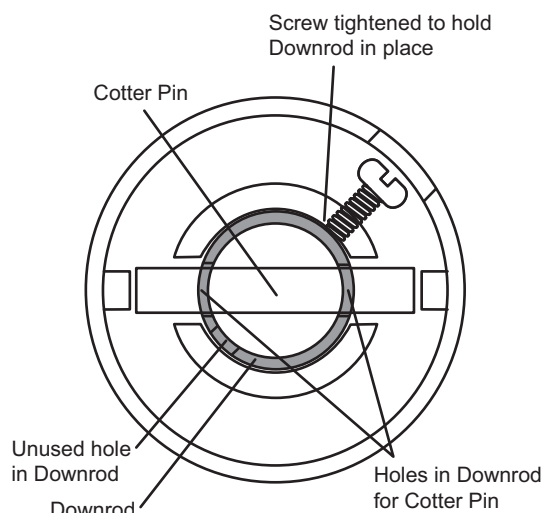

Figure 6-1
**WARNING:** When fixed the downrod, screw tightened to hold downrod in place, do not scw into the **unused hole** as show in figure 6-1.